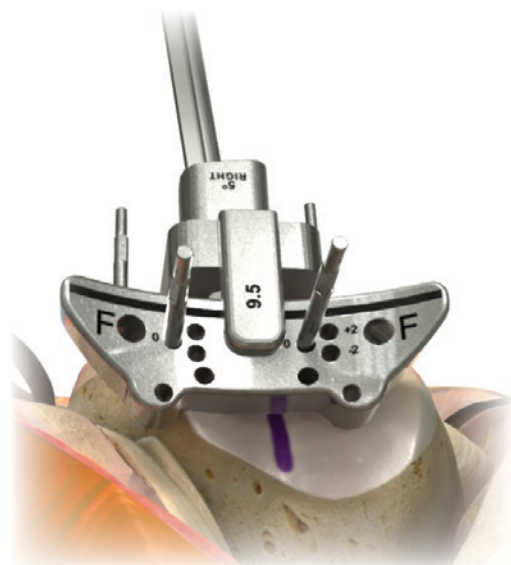

Figure 3
5. Use Trocar Pins to secure the Distal Femoral Cutting Block to the anterior femur through the two holes marked “0” (Figure 3).